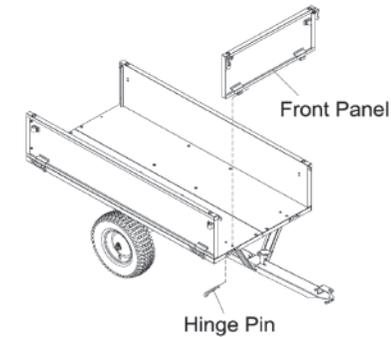

Fig. 7
**STEP 7: Attach the Front Panel (See Fig. 7)**